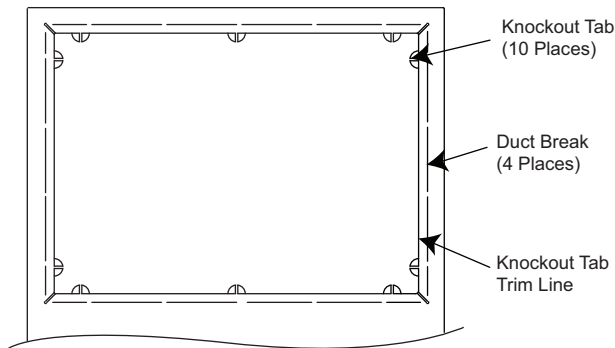
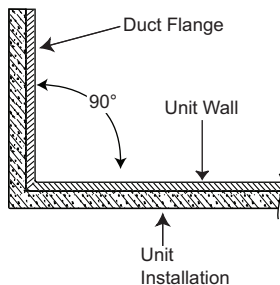

Fig. 27 — 42SUA Unit Supply Air Knockout Tab Location
Fig. 28 — 42SUA Supply Air Installation
2. Use a sharp retractable knife to trim insulation using center knockout slot/trim line as pattern (see Fig. 27).
3. Use a sharp standard needle nose pliers and grab knockout tab (see Fig. 27).
8. Use duct pliers (hand seamers) to fold duct flange out of the unit 90 degrees for each side of the supply air opening along duct break (see Fig. 27). The 90-degree flanges can now be used as drywall stops to prevent coverage of discharge opening (see Fig. 28).